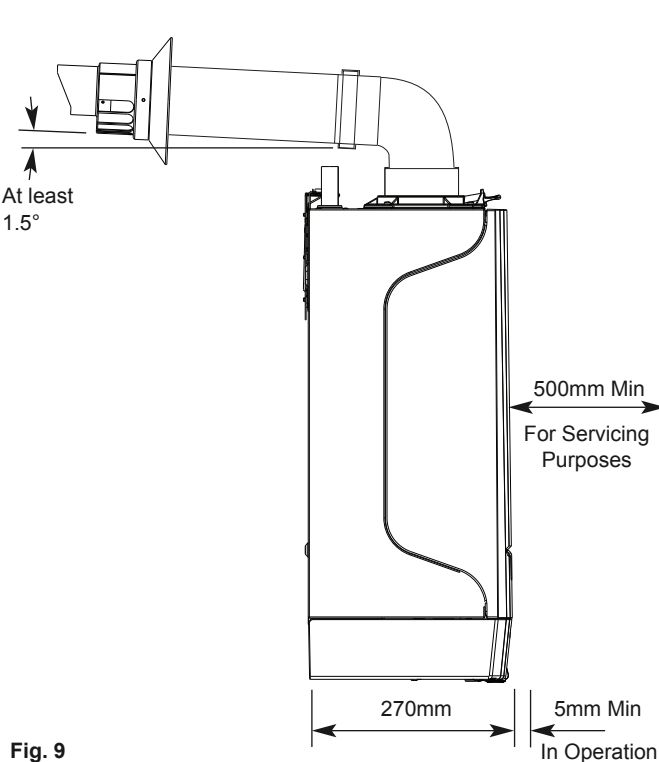

Fig. 9
2. These dimensions include the necessary clearances around the boiler for case removal, spanner access and air movement (Figs. 9 & 10). Additional clearances may be required for the passage of pipes around local obstructions such as joists running parallel to the front face of the boiler.